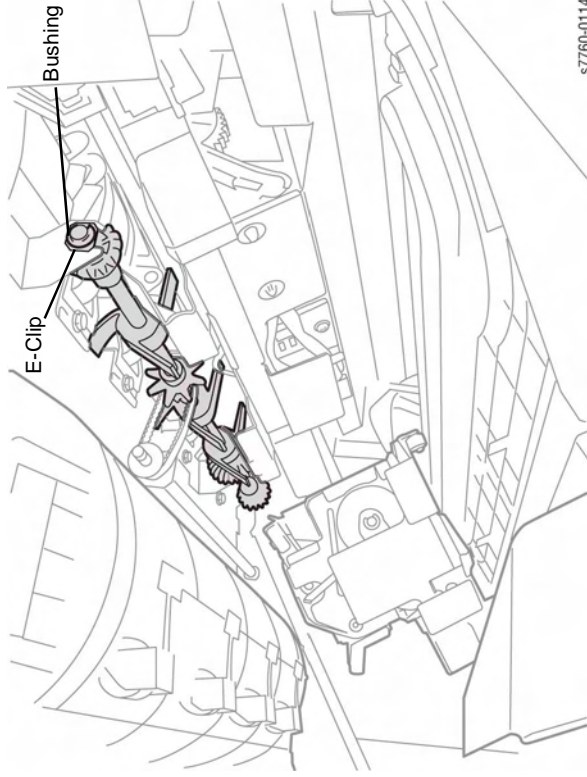

Figure 1 Removing Paddle Shaft
4. Removing the Paddle Shaft (Figure 1).